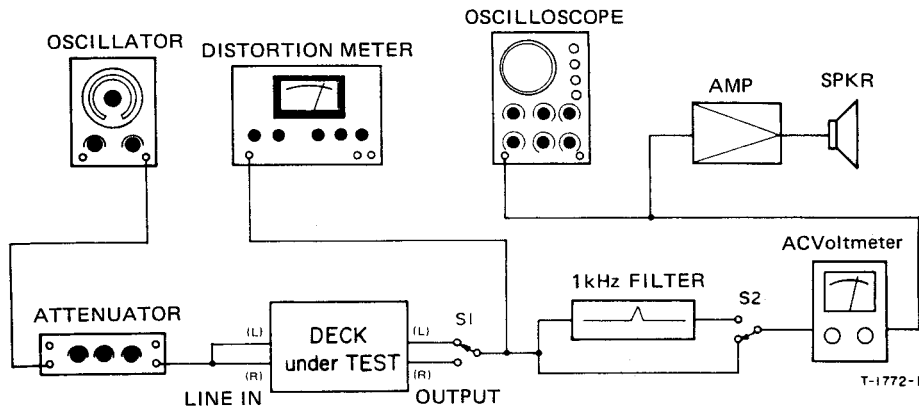

Fig. 5-1 Basic test setup
19. Erase efficiency	<ul style="list-style-type: none"> • Connection is same as in Fig. 5-1, but engage 1-kHz filter. • Record a 1-kHz signal. Rewind tape to midpoint of recorded portion. Record a "no signal" portion. Find the difference between the 1-kHz portion and the "no-signal" portion.
20. REC MUTE function	<ul style="list-style-type: none"> • Connection: Fig. 5-1, but engage 1-kHz filter. • Record a 1-kHz signal. Push REC MUTE button for several seconds. Rewind and play the tape. Find the difference between the 1-kHz portion and the "no-signal" portion.
21. Channel separation	<ul style="list-style-type: none"> • Connection: Fig. 5-1, but do not connect LINE IN (R), and engage 1-kHz filter. • Set the deck to record mode. Find the difference between the 1-kHz recorded portion (L-ch) and the "no signal" portion (R-ch).
22. Adjacent track crosstalk	<ul style="list-style-type: none"> • Connection: Fig. 5-1, but do not connect LINE IN (L) and OUTPUT (L). • Record a 125 Hz signal on R-ch and note output level. Invert tape and play R-ch track. Check leakage level against the output reference of previously recorded portion.